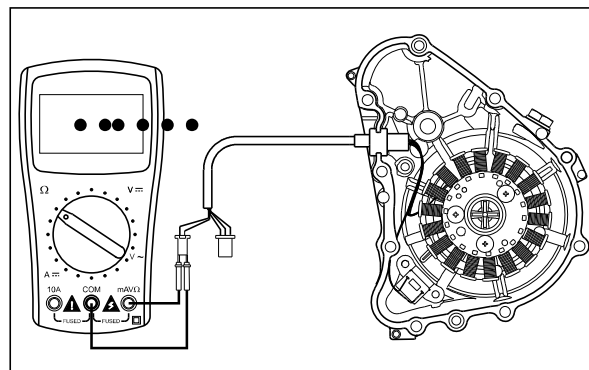

Fig. 5.44
- Connect pocket tester '+ve' lead to the brown wire (Br) of pulsar coil and '-ve' lead to white wire (W) of pulsar coil. (Fig. 5.44)